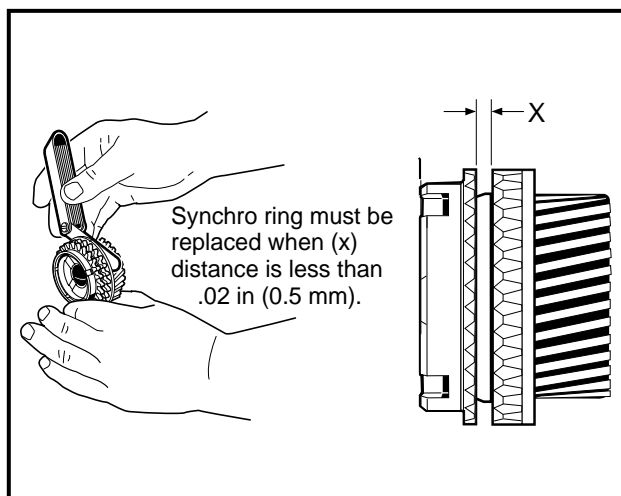

Figure 16-54 Synchro. Ring
5. Using a feeler gauge, measure the distance X at several points around the assembly. The synchro ring should be replaced when X is 0.02 inch (0.5 mm) or less (**Figure 16-54, Page 16-23**).